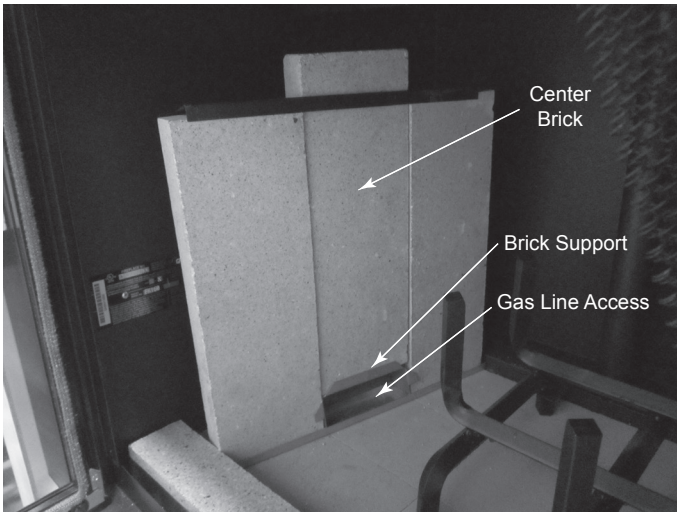

Figure 8.4 Gas Line Installation
- Slide the center firebrick up and place the support bracket under the brick. This bracket will support the brick and provide a space underneath it, through which a gas line can be run. See Figure 8.4.